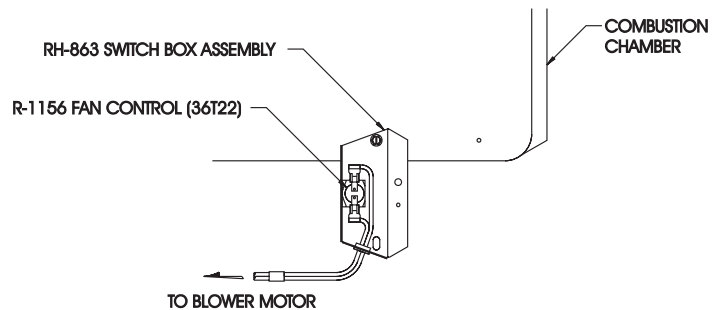

Figure 3
7. With the switch box perpendicular to the combustion chamber, align the round clearance hole on the switch box with the left screw hole on the combustion chamber (See Figure 3).